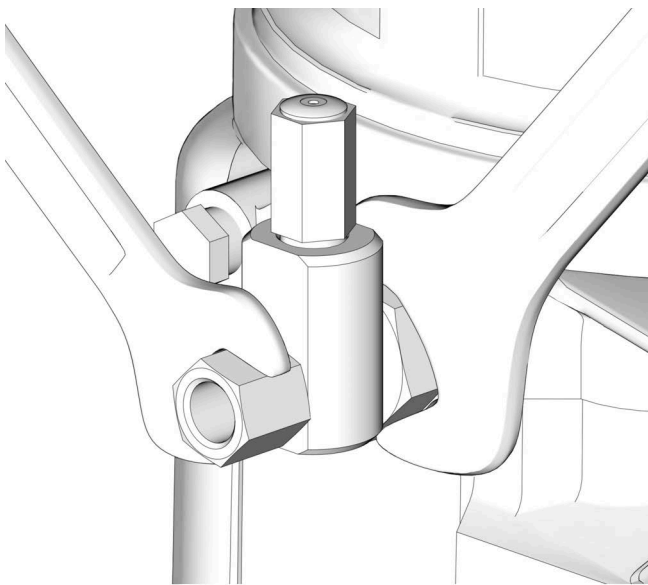

FIG. 22
1. Loosen pump element fitting (FIG. 22).
3. Tighten pump element fitting using two wrenches working in opposite directions (FIG. 22).